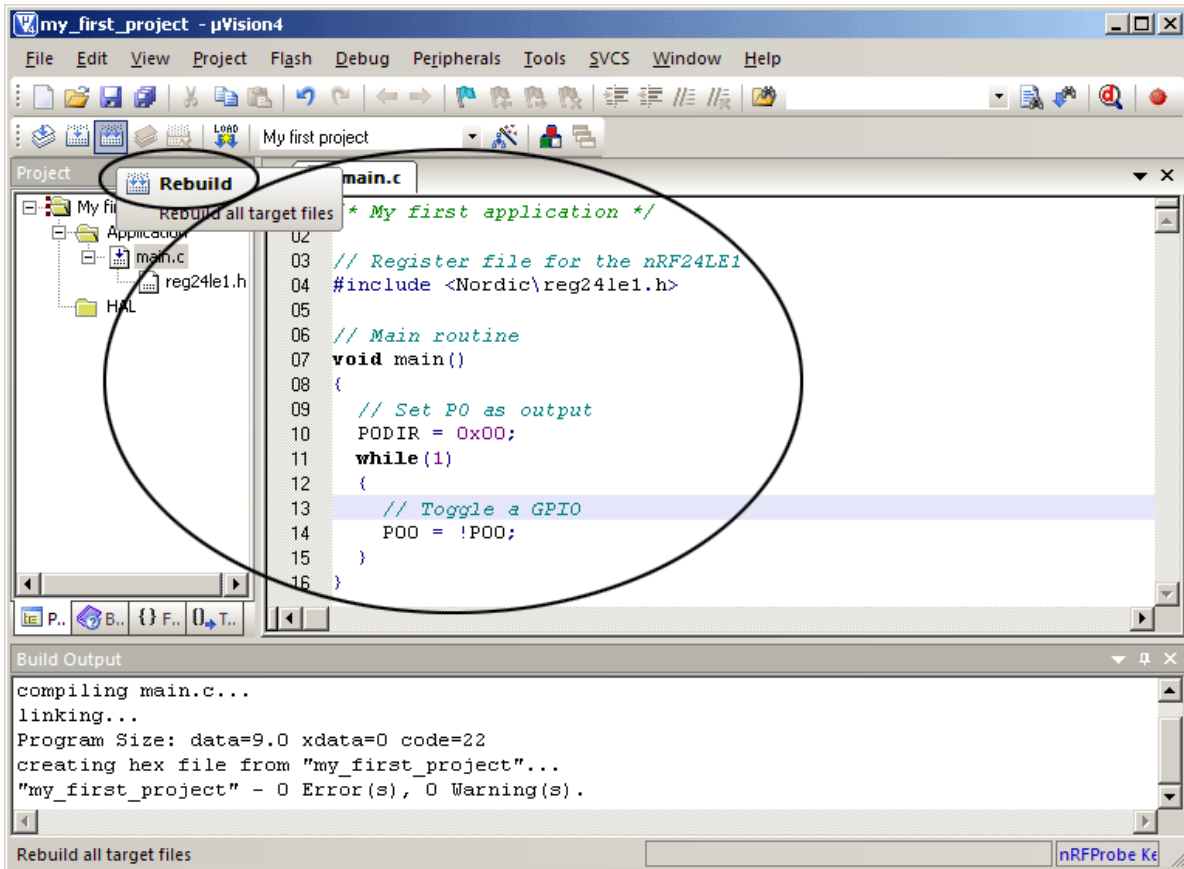

Figure 22. Example code with build of HEX file (shortcut F7)
7. You can copy Code example 1 from Figure 21 into the space for writing code below the main.c tab for your first application. See Figure 22 on page 19.
9. After writing the code example into the main.c you can compile the program by selecting **Rebuild**. See Figure 22.